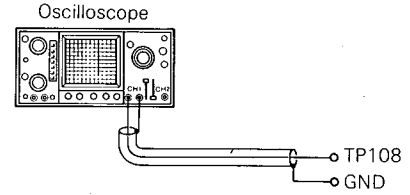

Fig. 18
- (1) Connect oscilloscope to TP108 and GND. (Fig. 18)
- (2) Insert the disc and place the unit in the play mode.